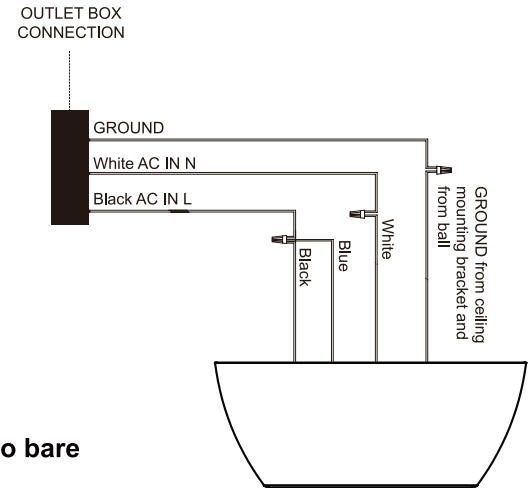

Fig. 12
Step 1. Connect the fan supply (black) wire and light supply (blue) wire to the household supply (black) wire as shown in (Fig. 12).
Step 3. Connect the ground wires of the ceiling mounting bracket and the ball to the ground conductor of the ceiling outlet box (Fig. 12).